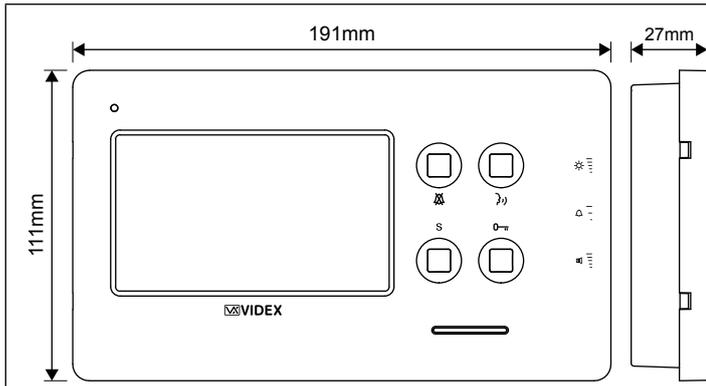
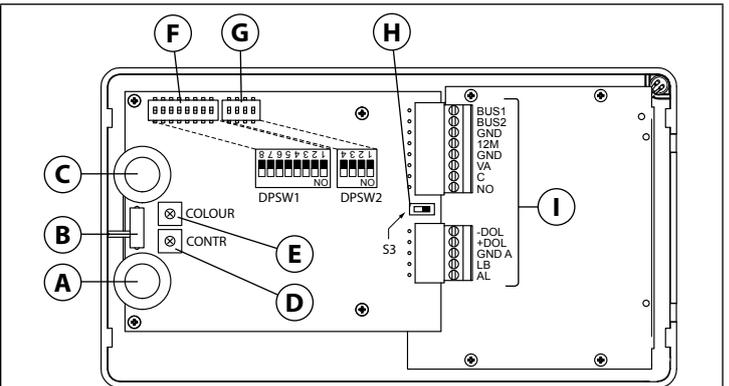

Fig. 1
Fig. 2
- Place the surface box against the wall (165-170cm between the top of the box and the floor level as shown in **Fig. 1**) and mark the fixing holes for the wall plugs and the hole for the cables **(E)** (**fig. 2**). Observe the orientation of the box with the hinge on the left;
- Protect the module support frame fixing holes from dust then embed the back box into the wall (165-170cm between the top of the box and the floor level as shown on the **Fig. 1**) feeding the cables **(E)** (**Fig. 2**) through a previously opened hole in the box. Observe the direction of the box ensuring the hinge is on the left and take care that the box profile is in line with the finished wall profile;